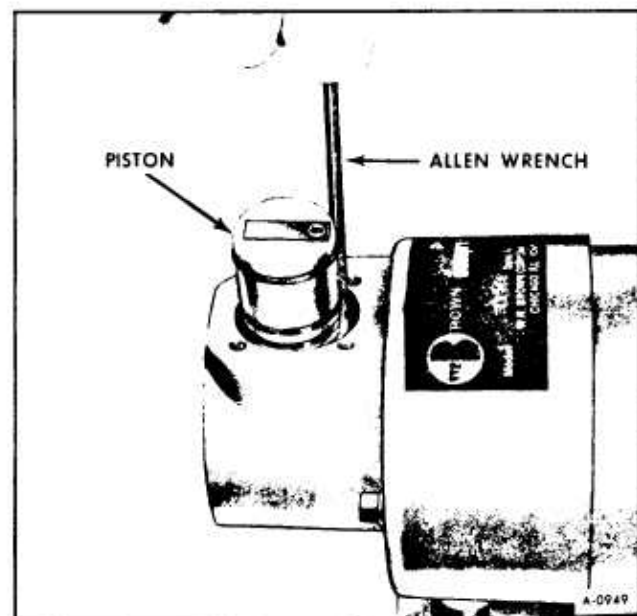

Figure 27—Loosening Allen Screw on Eccentric
6. Referring to Figure 27, Loosen Allen head set screw which is at top of eccentric.
6. Referring to Figure 27, loosen Allen Head set screw which is at top of eccentric.